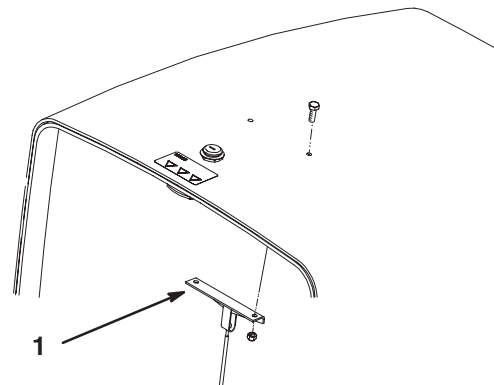

Figure 3
1. Remove and discard the (2) screws and nuts securing the hood cable bracket and to the underside of the hood (Fig. 3).